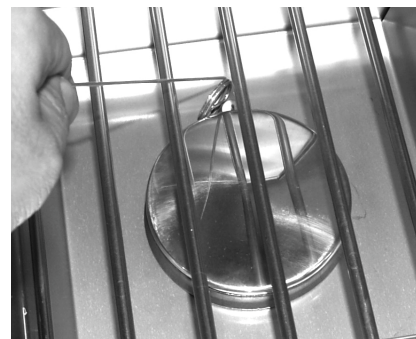

Fig. 23-2 - Manual lighting
2. Insert either a burning long-barrel butane lighter, a burning long-stem match, or a burning match held by a wire extension holder through the cooking grids to the burner (Fig. 23-2). Hold the flame against the edge of the burner.
4. If the burner does not light within five (5) seconds of turning the control knob, **immediately depress the knob and turn the valve to OFF**. **WAIT FIVE (5) MINUTES** before repeating steps 2 through 4 of the MANUAL LIGHTING instructions.